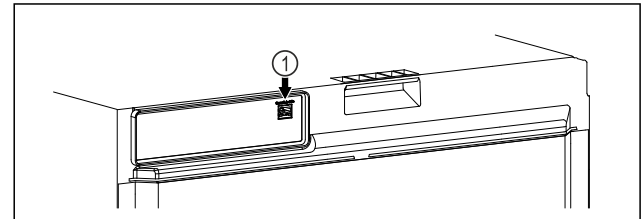

Fig. 112
- ☐ SmartModule Fig. 112 (1) is inserted.